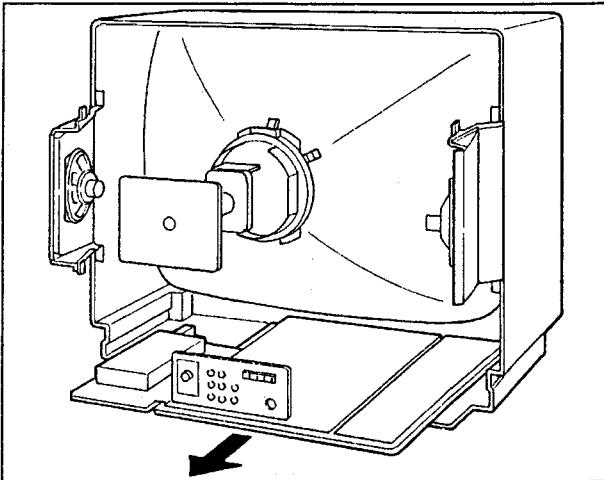

Fig. 2
- Slightly raise the chassis and pull it outward (Fig. 2).